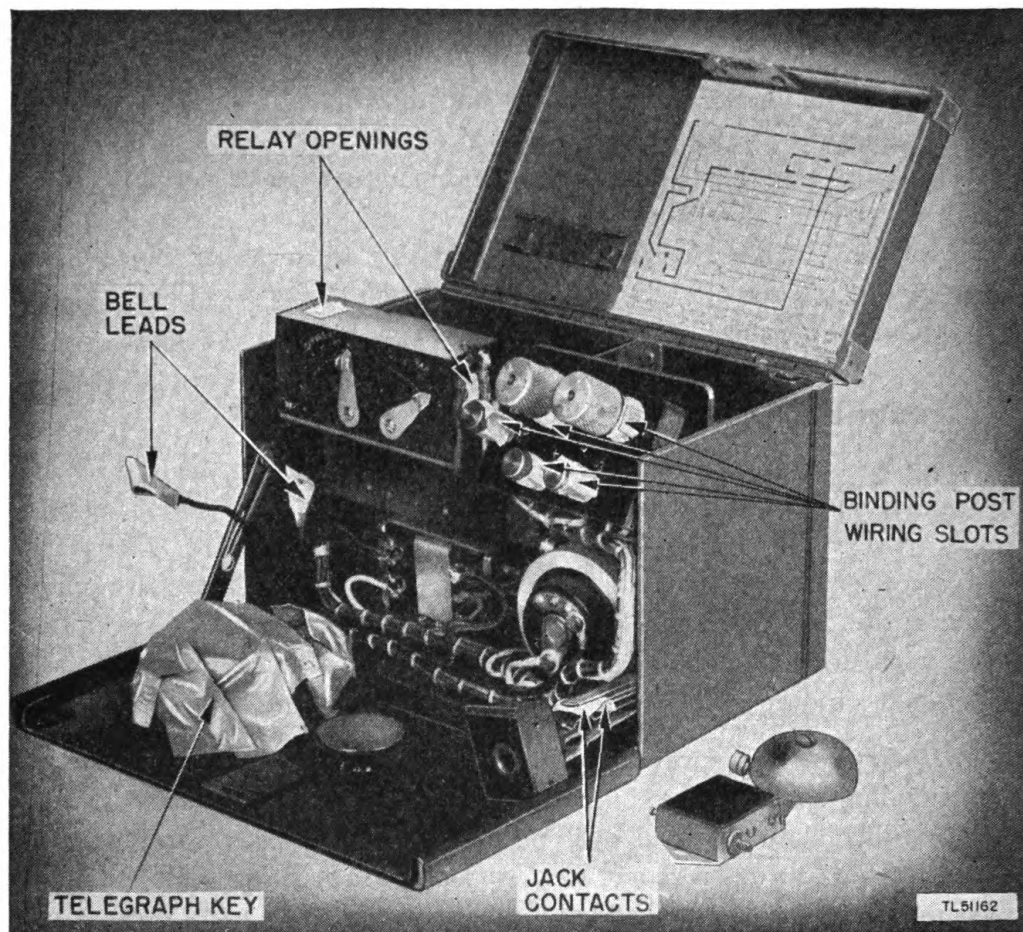

Figure 21. Telegraph Set TG-5-A disassembled and masked.
- b.* DISASSEMBLY. (1) Raise the cover of the telegraph set and open the front panel.
- (2) Remove the bell and disconnect the attached leads.
- (3) Remove the two screws which hold the jack mounting to the right side of the case, and pull jack forward. Do not disconnect the wiring.
- (4) Remove the screws from the binding post mounting plate and expose the back of the plate. Do not disconnect the wiring.
- (5) Remove Battery BA-2 from the line battery compartment.
- (6) Open the door to the rear battery compartment and remove the two Batteries BA-30. The batteries are not to be treated.
- d.* MASKING (fig. 21). Cover the following parts with masking tape:
- (1) Telegraph key.
- (2) Spring and key contacts of jack.